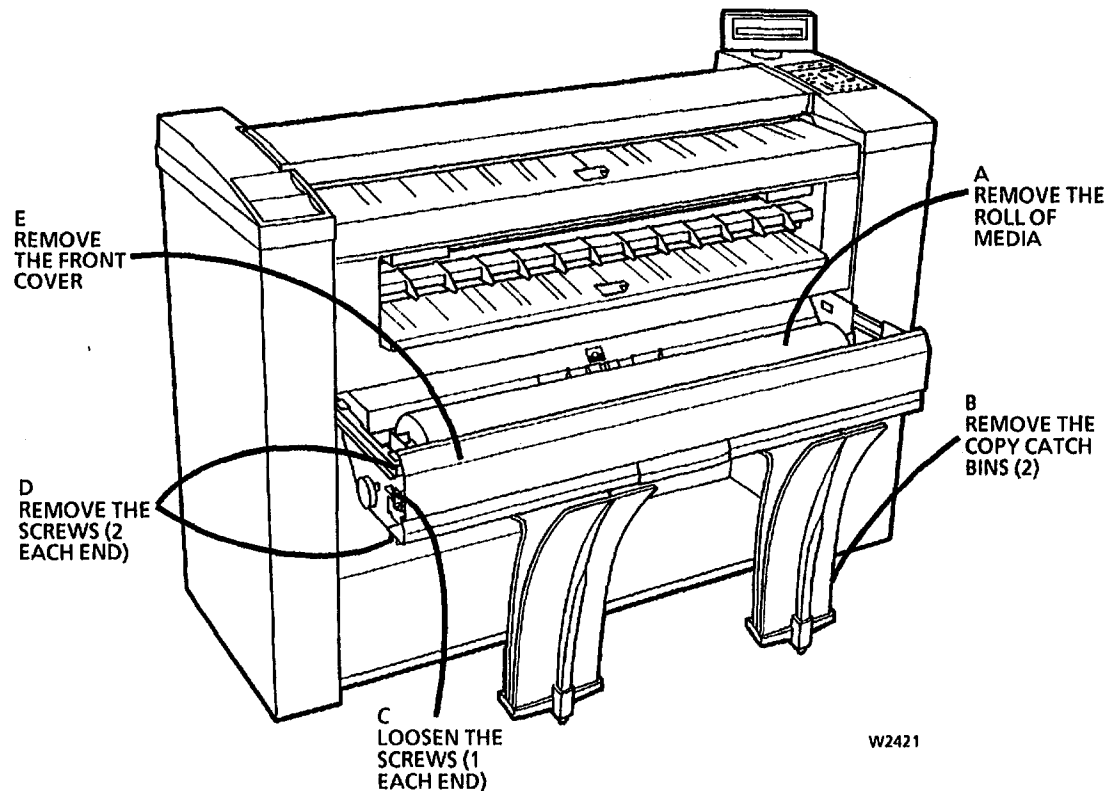

Figure 1. Removing the Front Cover
1. (Figure 1): Remove the Front Cover.